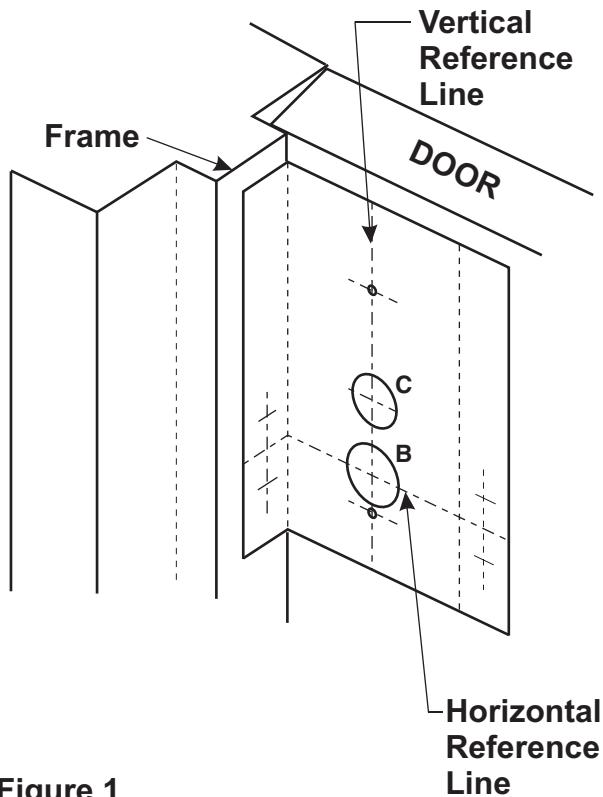

Figure 1
5. For Hardwire option requiring door preparation, mark and bore a 1"(25mm) Dia. Hole to required depth. **Fig. 1 'C' Hole**
6. Install Magnet to door frame with (2) #4 screws supplied.